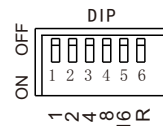

Fig. 2
- (1) DIP switches: SW1~SW3 for programs selection, please see Attached Table (1=ON, 0=OFF). SW4 and SW5 are blank; SW6 for remote control (see fig. 2)
- ① If you need Master/Slaves to change color synchronously, please set all of slaves as "001";
- ② If you need Master/Slaves to change color in sequence, please set first slave machine as "006", the second one as "011" and so on (add "5" one after another).
(3) The connection of DMX Signal Control Mode (See Fig. 2):
- (1) Drill holes on the installing board according to the design. Then insert the fiber optic string into holes and fix it with epoxy glue. Trim the end of the fiber string to be flush with the board or at a required length. Fasten the other end of the fiber string to a harness and insert the harness into PG Connector and Fiber Connector. Apply the hot knife to cut fiber end flush with the Fiber Connector. (See Fig.2).
- (2) Insert the finished Fiber Connector into the Fixing Flange and screw tightly the Screw.